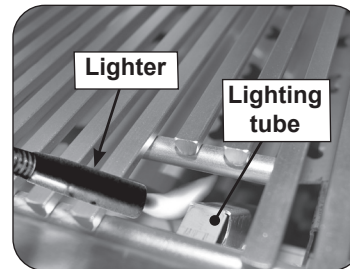
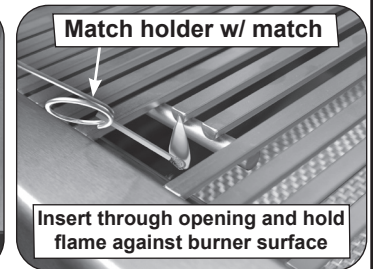

Fig. 37-2 Manual lighting via lighting tube
Fig. 37-3 Manual lighting via match holder
2. Insert either a burning long-barrel butane lighter or a burning long-stem match through the cooking grid opening to the top of the lighting tube (see Fig. 37-2). For backburners or infrared burners, hold the flame against the surface of the backburner/infrared burner. Grills equipped with an infrared burner include a wire extension match holder (attached to drip tray) to assist with manual lighting (see Fig. 37-3).
4. If the burner does not light within five (5) seconds of turning the control knob, **immediately depress the knob and turn the valve to OFF**. **WAIT FIVE (5) MINUTES** before repeating steps 2 through 4 of the MANUAL LIGHTING instructions.